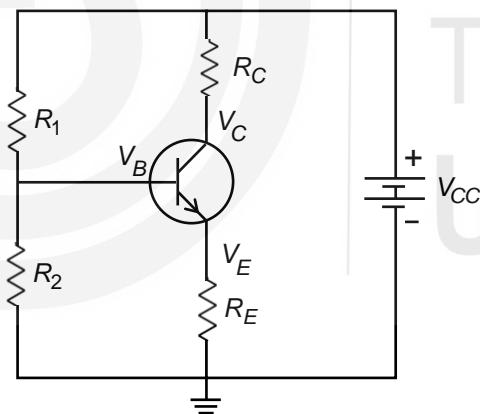

Fig. 4.11: Universal bias for an *n-p-n* transistor in common emitter configuration.
Universal bias is the biasing method most widely used for linear operation of the transistor (see Fig. 4.11). It is also known as the voltage divider circuit because the resistances R_1 and R_2 in Fig. 4.11 form the voltage divider. In this biasing method, only one battery or dc power source is required. It uses four resistors and provides a stable operating point.
Note from Fig. 4.11 that the voltage across R_2 forward biases the emitter diode. In this biasing method, the Q point is independent of the dc beta gain. Let us explain how. If the current gain (β_{dc}) increases, the collector current (I_C) increases. This results in an increase in the emitter current I_E and, hence, the voltage drop across R_E increases. From the input circuit in Fig. 4.11, you can see that resistors R_1 and R_2 form a voltage divider across the dc power supply V_{CC} , and the current I_1 through these resistors is usually selected to be about one-tenth of the collector current. Since the base current is small, the current through R_2 can also be taken as $\sim I_1$. So, the voltage across R_2 is
Calculate the dc voltages (base voltage, emitter voltage, collector voltage and collector to emitter voltage) and collector and emitter currents for the universal bias circuit of Fig. 4.11 given that $R_1 = 40\text{k}\Omega$, $R_2 = 5.0\text{k}\Omega$, $R_C = 5.0\text{k}\Omega$, $V_{CC} = 12\text{V}$ and $R_E = 1.0\text{k}\Omega$. Take $V_{BE} = 0.3\text{V}$ for the transistor used. Hence, locate the Q point.
For the circuit given in Fig. 4.11, state if the following quantities will increase or decrease if R_1 is increased by 50%?
4. Calculate the base voltage, emitter voltage, collector voltage, collector to emitter voltage, and collector and emitter currents for the universal bias circuit of Fig. 4.11 given that $R_1 = 45\text{k}\Omega$, $R_2 = 5.0\text{k}\Omega$, $R_C = 5.0\text{k}\Omega$, $V_{CC} = 15 \text{ V}$ and $R_E = 1.0\text{k}\Omega$. Take $V_{BE} = 0.3 \text{ V}$ and hence, locate the Q point.